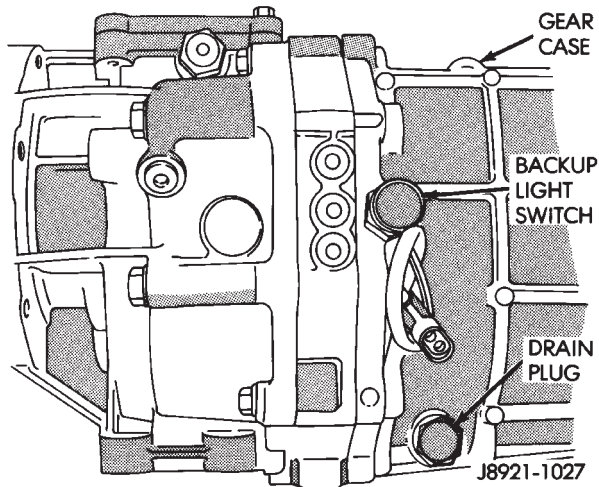

Fig. 1 Drain Plug And Backup Light Switch Location
(1) Remove release bearing, release lever and release fork from clutch housing. Then remove clutch housing from transmission.
(2) Remove backup light switch. Then remove drain plug (Fig. 1) and drain transmission lubricant into pan.